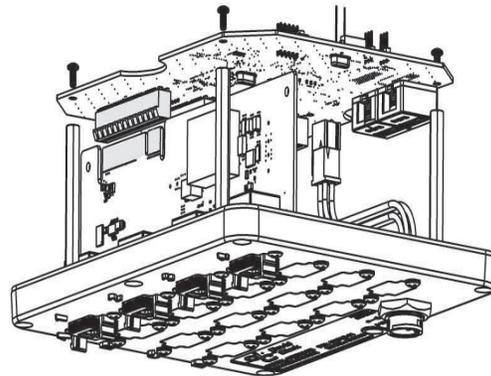

Figure 3 – Main PCB and Add-In Card Assemblies
5. Remove the four screws which attach the main PCB assy to the standoffs (**Figure 3**).
1. Gently attach the main PCB assy to the cover assy, ensuring the “fingers” on the add-in cards line up with and insert fully into the connectors on the main PCB assy (**Figure 3**).